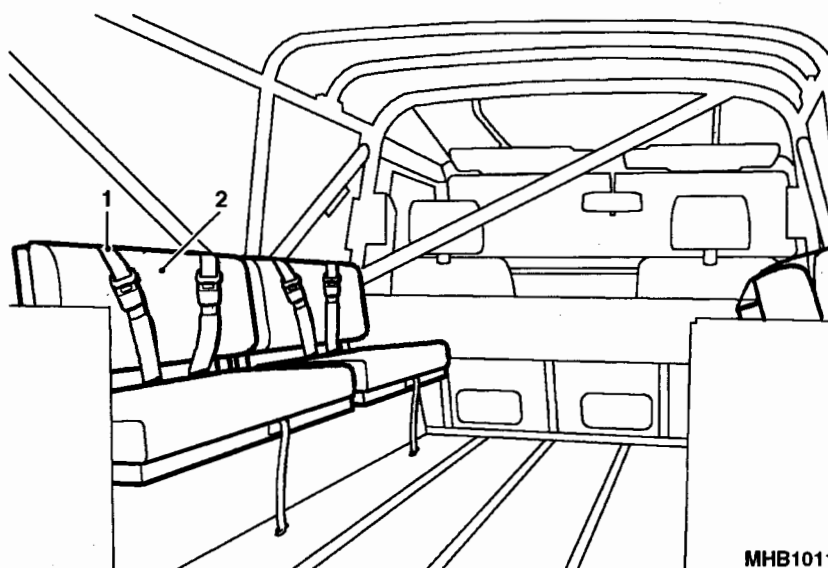

Fig 35 Bench seat belt stowage
70 To prevent the seat belts (1) from being caught under the frame of the seat when the seat cushion is dropped onto the wheel box, it is recommended that the belts be stowed as shown in Fig 35, with the buckles engaged over the back of the seat (2).